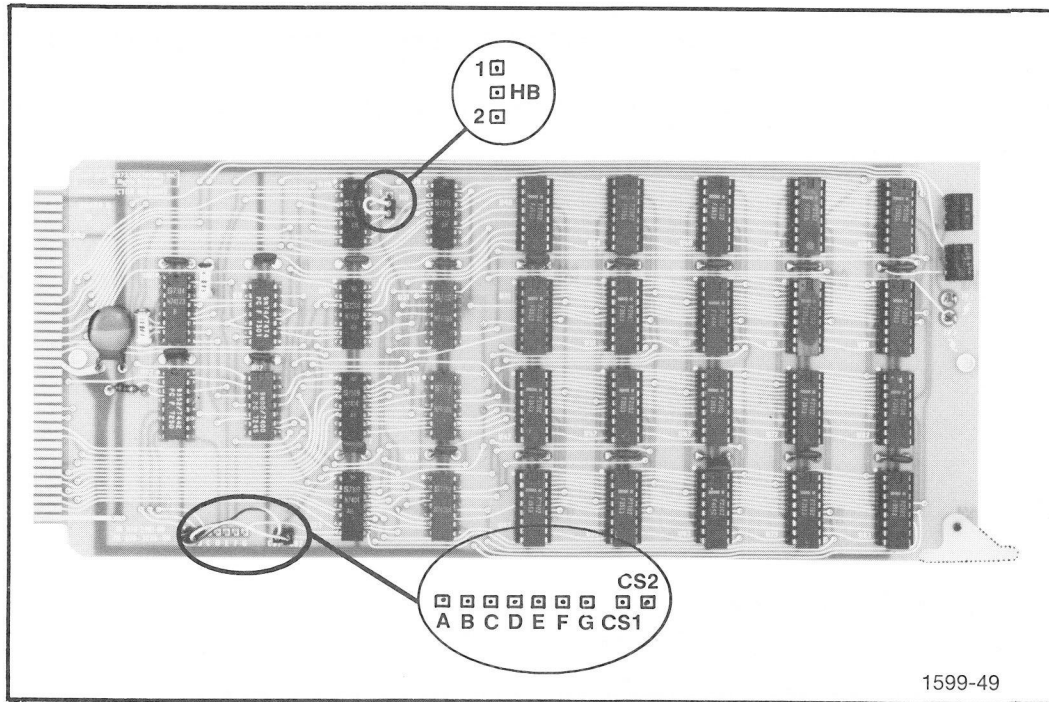
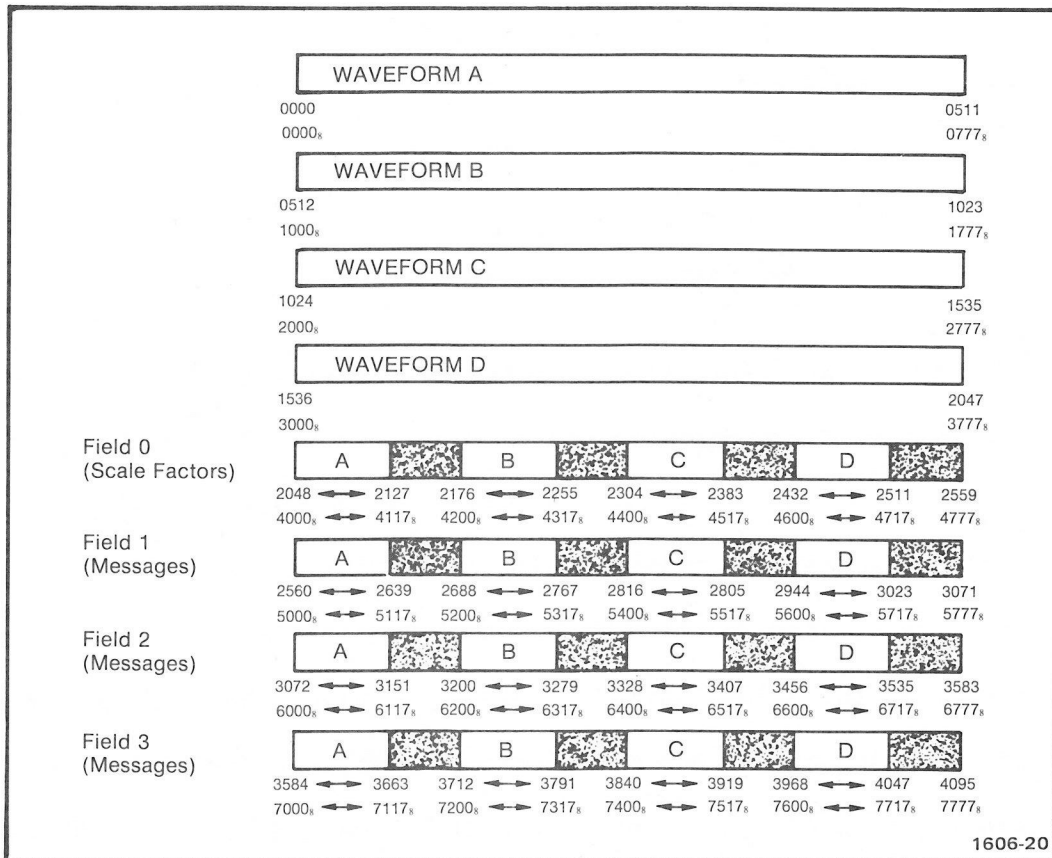

Fig. 1-1. 1K and 2K Semiconductor Memory strap location.
Fig. 1-2. 4K memory map.
Strap options are available for the 1K and 2K versions to eliminate the readout storage capability and replace it with additional waveform storage capacity. Strap options are illustrated in Fig. 1-1 and described in more detail in the DPO Operators Manual (070-1599-00).
The HB strap selects the starting address of the readout fields above the waveform. That is, when ASCII readout storage is desired, HB is set to 1 and then when readout locations are addressed (4000_8 to 4777_8) then the high bit, bit A_9 , will come from $\overline{ADD\ 11}$. This permits one waveform of 512 words and four groups (512 words) of readout information. With HB set to 2 then there are two waveform locations (512 words each) available for storage. These two waveform locations are addressed continuously from 0 to 1023 (see Fig. 1-2).
Chip Select. Chip select is a strap option used to determine the starting address of memory locations. Chips are selected by setting pin 13 of the RAM high (off) or low (on). The option is exercised by selecting the outputs of U02 (A, B, C, and D), $\overline{ADD\ 11}$ (E), or $\overline{ADD\ 11}$ (F) for the Chip Select signal to CS1 or CS2. Option G selects a ground or low point. The pins A through G are jumpered in combinations with CS1 and CS2 to select the desired memory size (see Fig. 1-1 and Fig. 1-2).